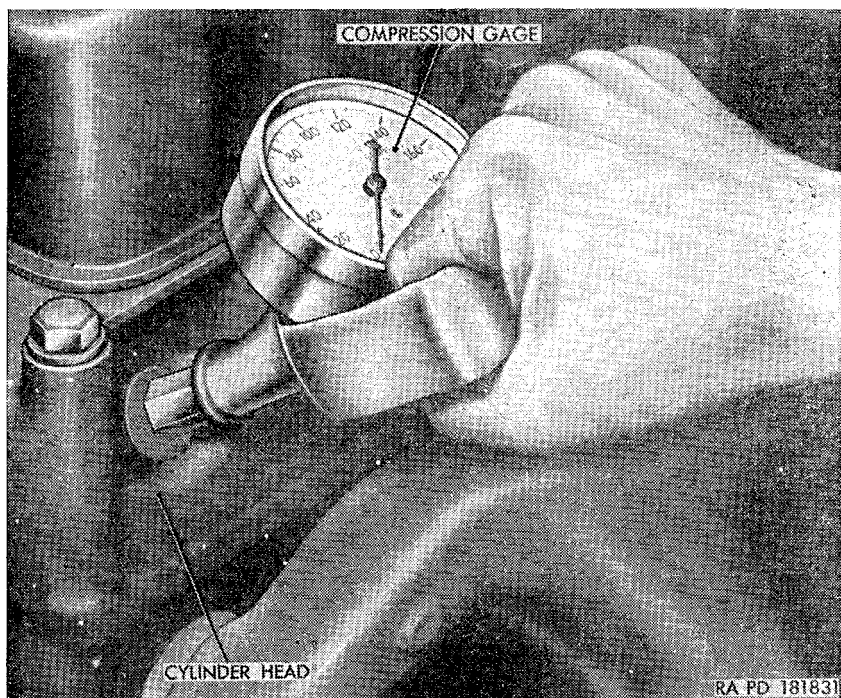

Figure 38. Checking cylinder compression.
*e.* Insert a conventional-type compression gage (fig. 38) into the spark plug holes, one at a time, beginning with the number one cylinder, and crank the engine with the starter. Record the highest compression reading from each cylinder on DA Form 461.